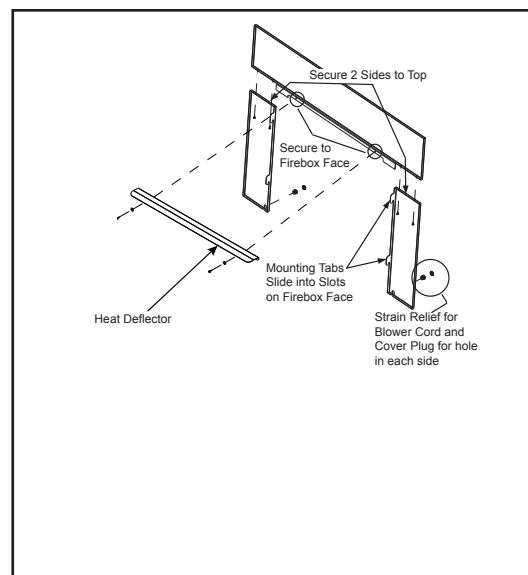

Figure 42.2
2. Using a 4 to 6 inches long Phillips head screw driver attach the side surrounds to the top surround using (2) #8 sheet metal screws on each side provided with the kit. **Figure 42.2**.
5. Slide the assembled trim set over the surround set. and then over the appliance matching the mounting tabs on the side pieces with the slots on the appliance. **Figure 42.2**.
6. Align the 2 screws in the top surround piece to the 2 alignment holes on the appliance top. Secure in place. **Figure 42.2**.